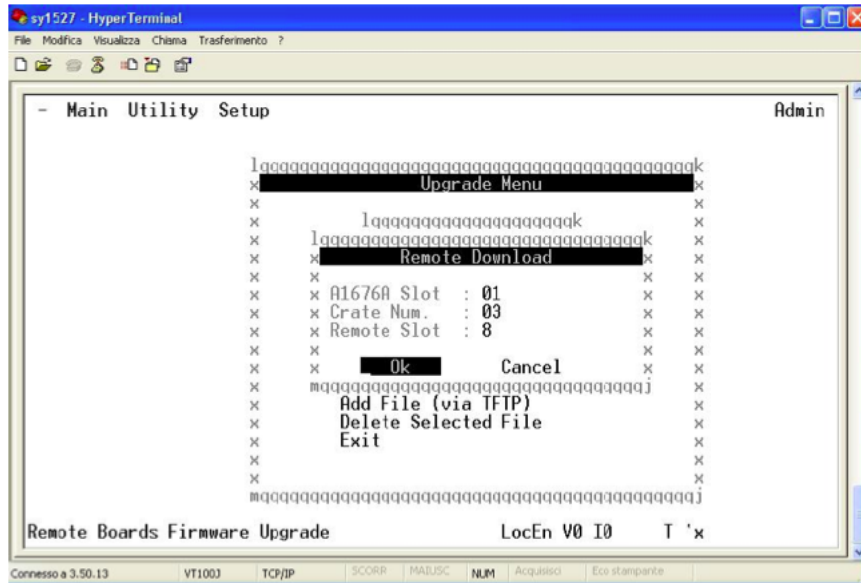

Figure 1: Remote Board Upgrade menu
3. the window presented on Fig. 1 will open.